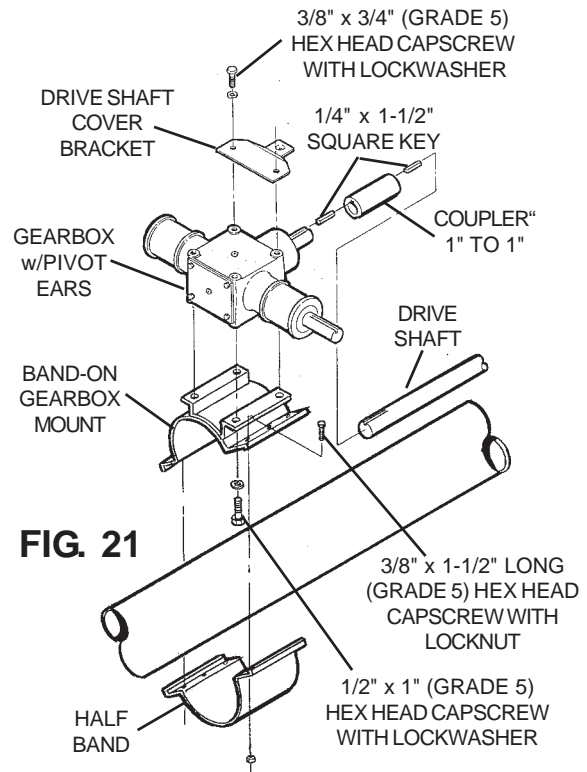

FIG. 21
Step 3. Set gearbox on auger and connect to drive shaft with coupler and two 1/4" x 1-1/2" long square keys. (See Fig. 21.)